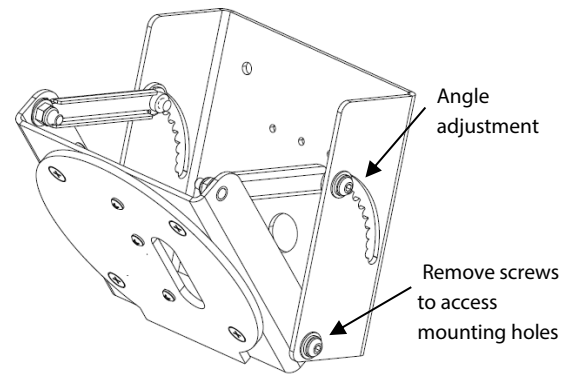

Figure 1 -
2. Remove two screws shown in Figure 1 using 5/32" Allen wrench or hex bit to access mounting holes.
7. Align holes and replace screws removed in Step 2 (see Figure 1).
8. Adjust bracket angle and tighten screws to secure in place (see Figure 1)